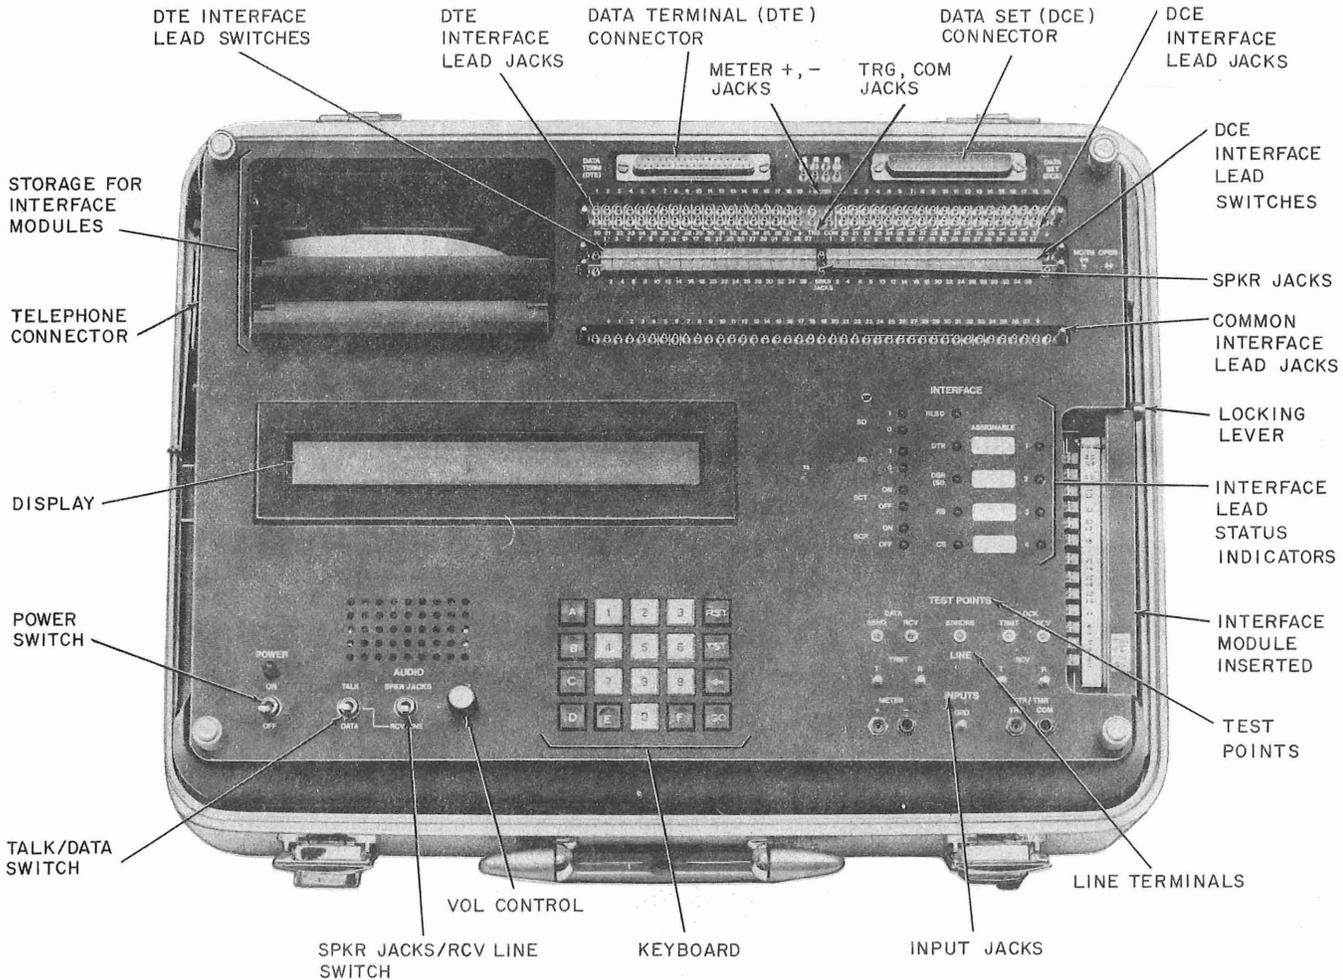

Fig. 1—921A Data Test Set—Front Panel
1.04 The 921A DTS (Fig. 1) is a portable, general purpose, data test set that provides the serial testing capabilities of the 914C DTS and is compatible with the 914C DTS for end-to-end testing. In addition, the 921A DTS is compatible with the 911A and 911NA DTSs for end-to-end start-stop distortion measurements. Additional information concerning the 921A DTS is contained in Section 107-402-100.